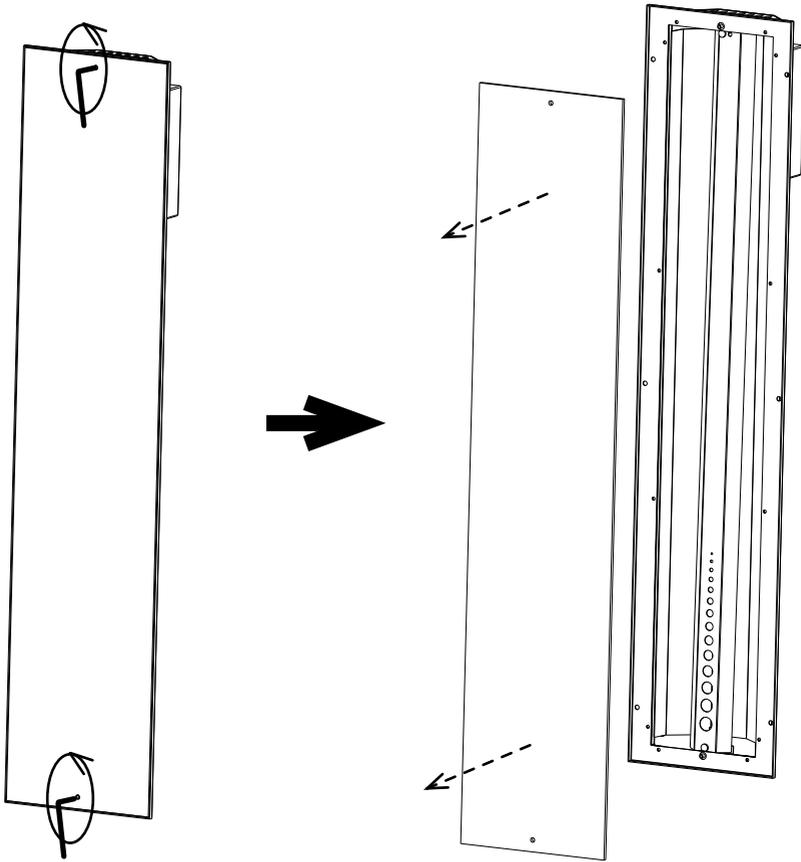

Fig. 5 Removing the glass panel
- Allen key 2 mm
4. Remove the glass panel. To do so, use an Allen key to carefully unscrew the two screws (top and bottom of the glass panel) and remove the glass panel by carefully tilting the heater (or using a suction cup). See Figure 5.